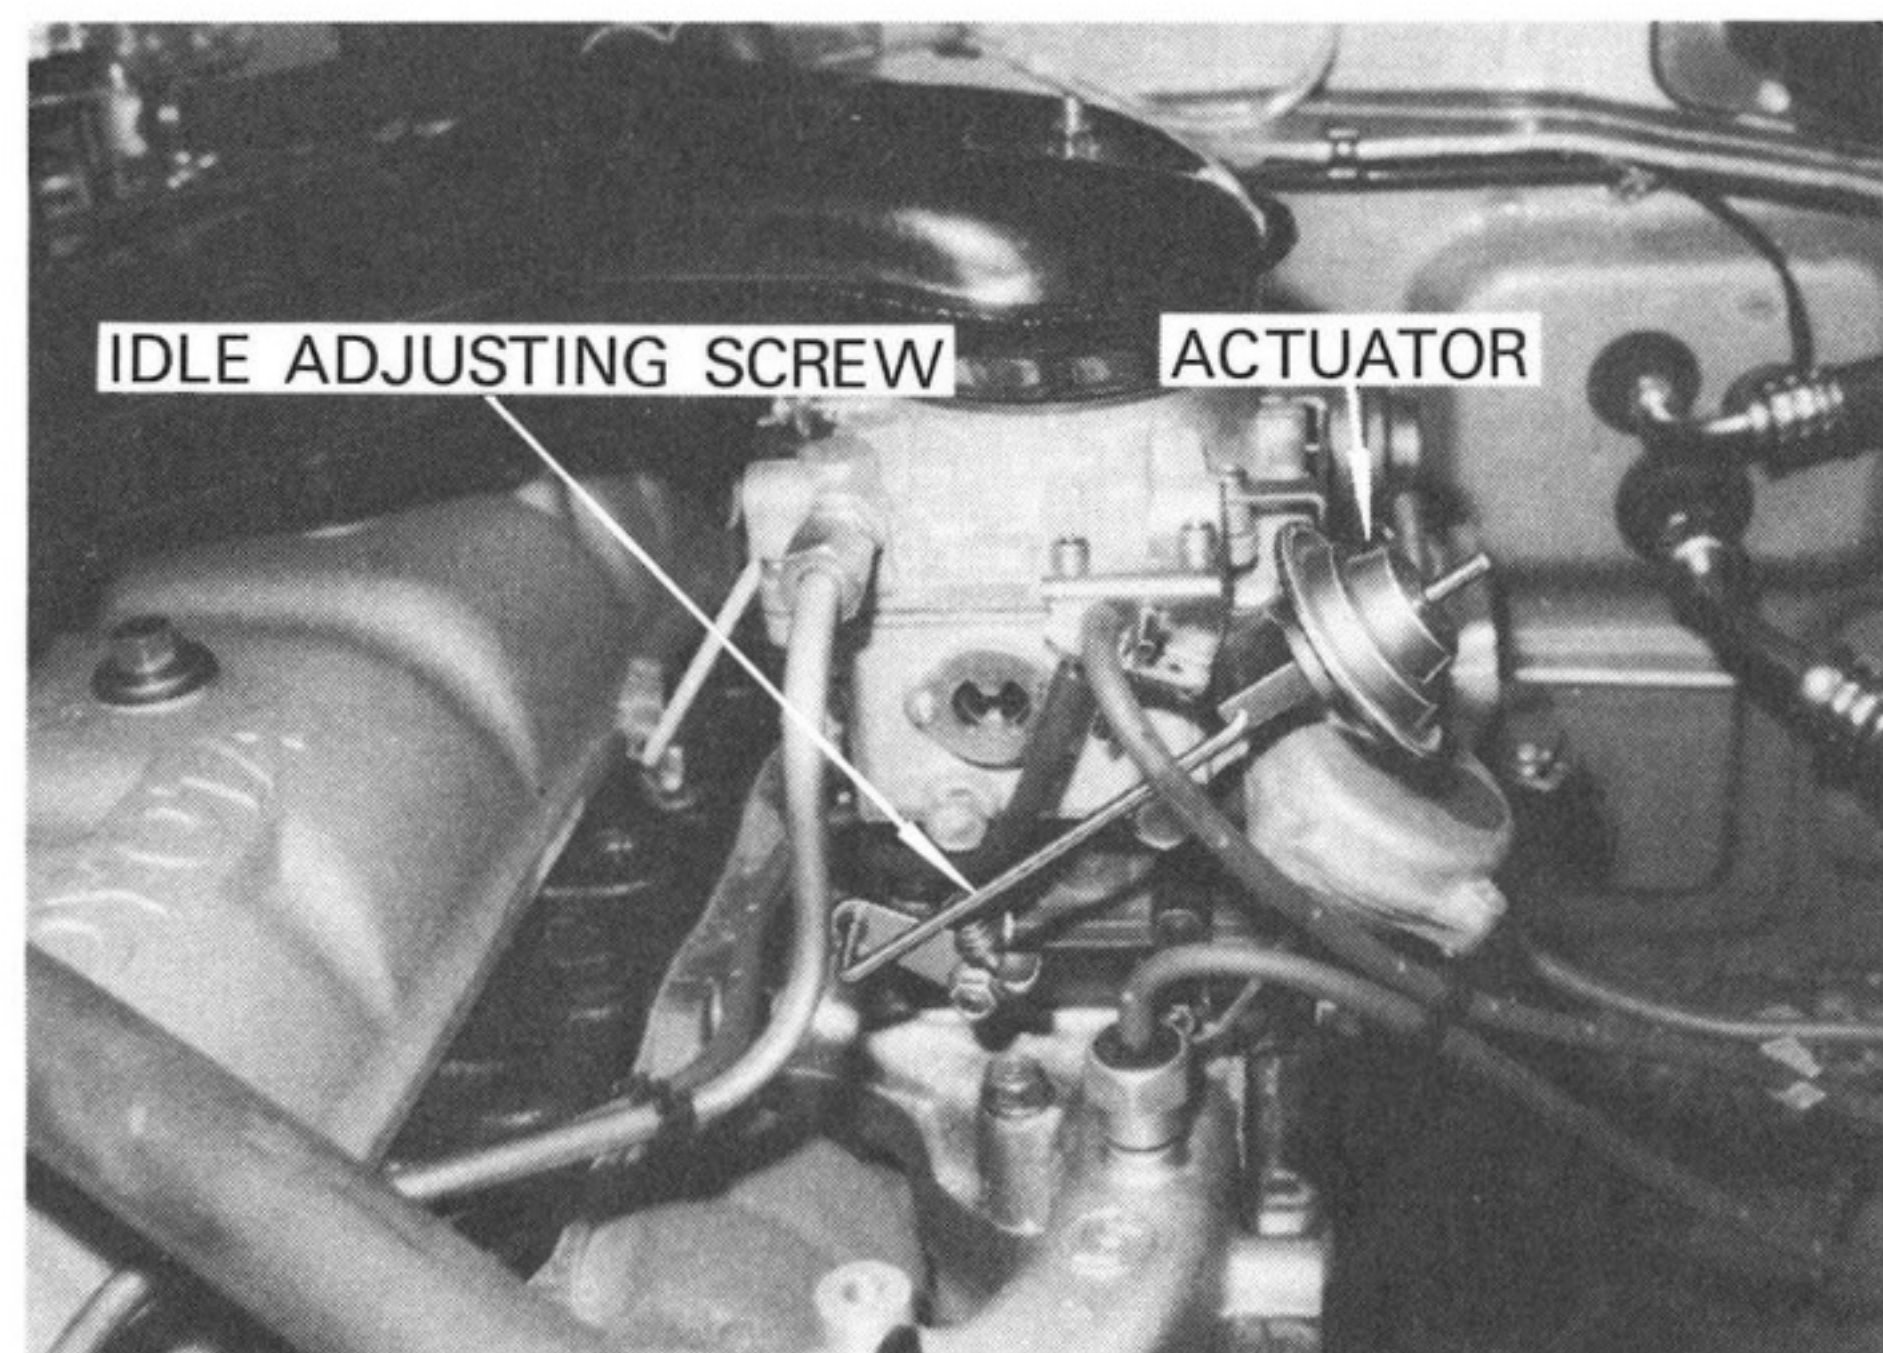

Fig. 40
- D) When the fast idle speed deviates from specified range, adjust it by screwing the idle adjusting screw. See Fig. 40.